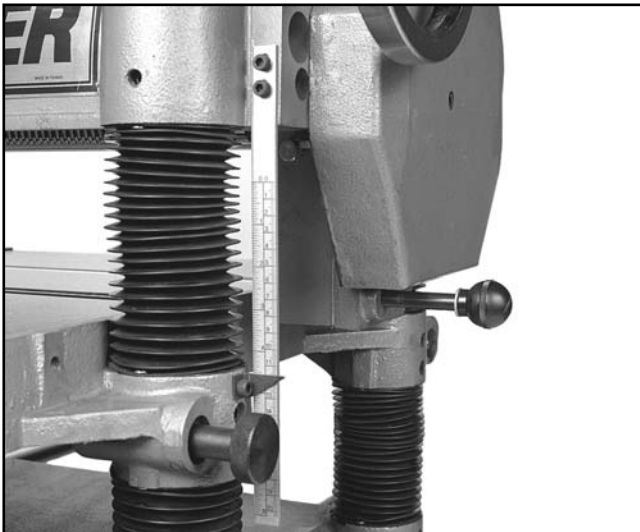

Figure 23. Cutterhead height scale.
4. Re-measure the board and compare your results with the scale. If there is a discrepancy, loosen the Allen® head bolts and adjust to match your findings. **See Figure 23.**